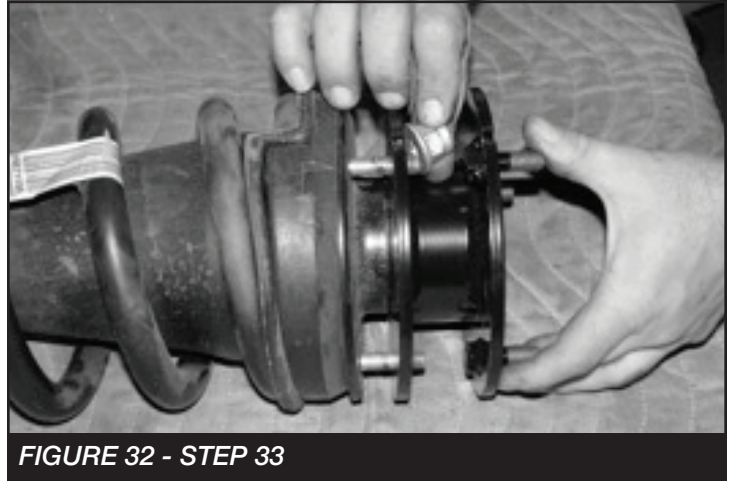

FIGURE 32 - STEP 33
33. Install the FT20560BK coil spacer using the factory nuts and torque to 30 ft-lbs. **SEE FIGURE 32**